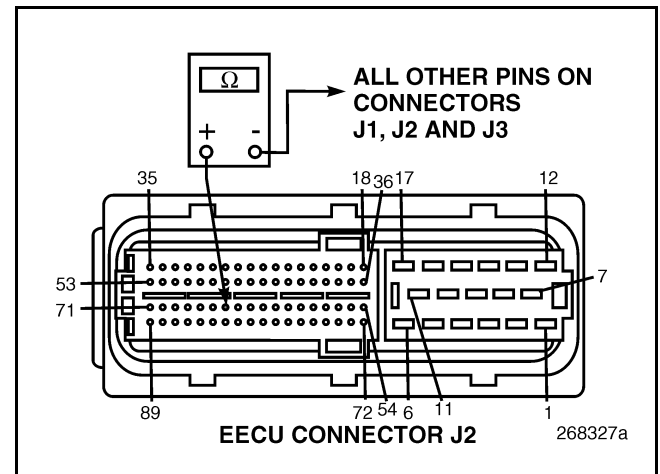

Figure 314
4. Check for continuity between EECU harness connector J2 pin 65 and all other pins on EECU connectors J1, J2, and J3 (see Figure 314).